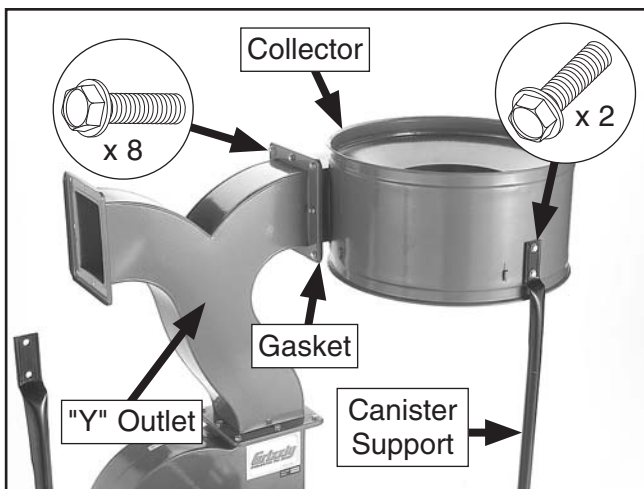

Figure 14. Collector installed.
- With assistance, place one of the rubber gaskets around the rim of the intake on one of the collectors, then secure the collector to the metal "Y" outlet with (8) $\frac{5}{16}$ "-18 x $\frac{1}{2}$ " flange bolts (see **Figure 14**).
- Attach the top of the canister support to the collector with (2) $\frac{5}{16}$ "-18 x $\frac{1}{2}$ " flange screws, as shown in **Figure 14**.